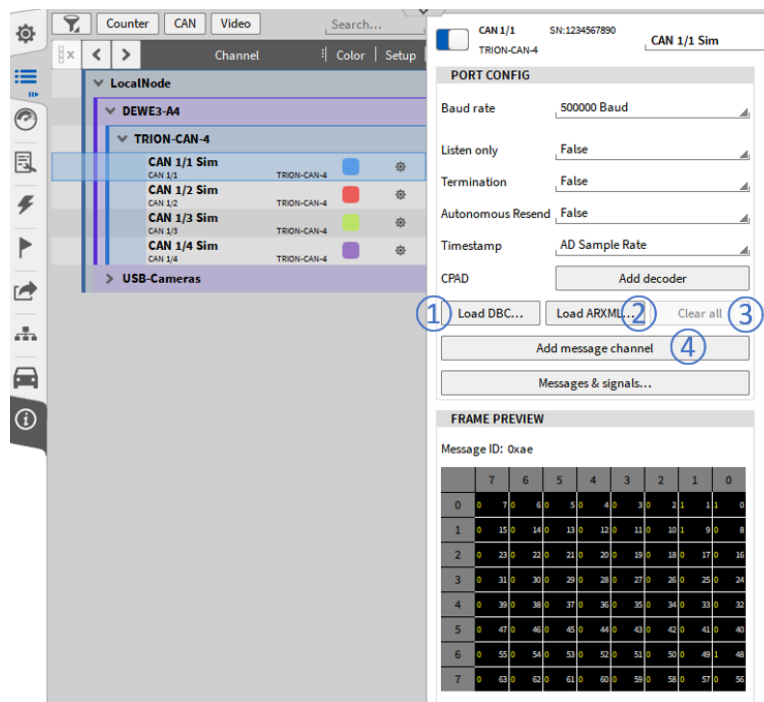

Fig. 7.203: Decoding CAN data
Thus, press *Load DBC...* (see ① in Fig. 7.203) or *Load ARXML...* (see ② in Fig. 7.203).
You can delete all decoded messages and channels by pressing the Clear All button the CAN port configuration (see ③ in Fig. 7.203).
If one or several messages available on the CAN bus should not be defined in the selected dbc- or arxml-file you can manually add them by pressing *Add message channel* (see ④ in Fig. 7.203) and defining the correct settings in the CAN message setup. More details can be found in CAN message setup.